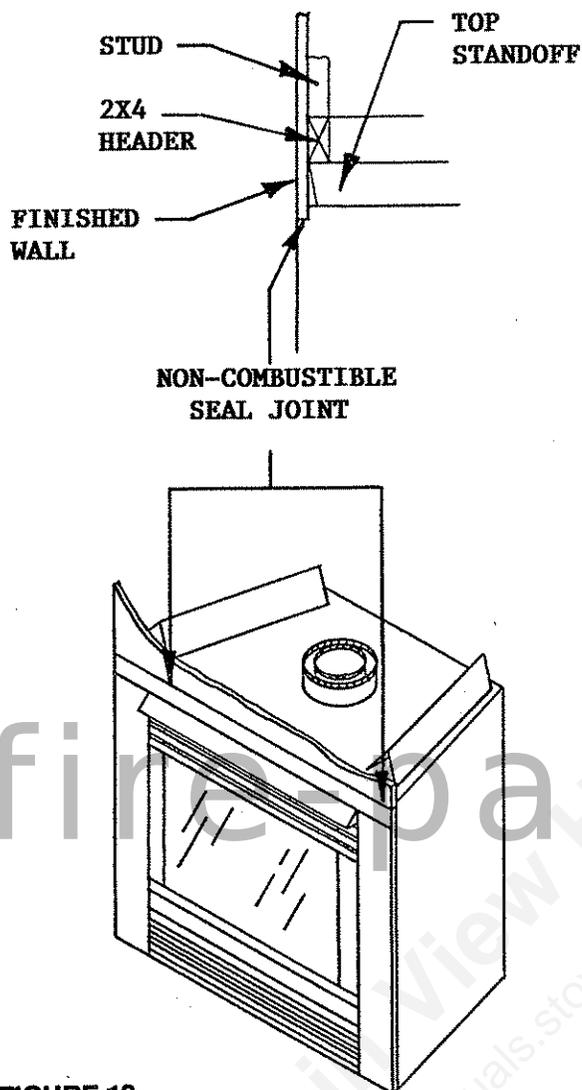

FIGURE 18
**CAUTION:** ALL JOINTS BETWEEN THE FINISHED WALL AND THE FIREPLACE SURROUND (TOP AND SIDES) CAN ONLY BE SEALED WITH NON-COMBUSTIBLE MATERIAL. ONLY NON-COMBUSTIBLE MATERIAL CAN BE APPLIED AS FACING TO THE FIREPLACE SURROUND. SEE FIGURE 18.